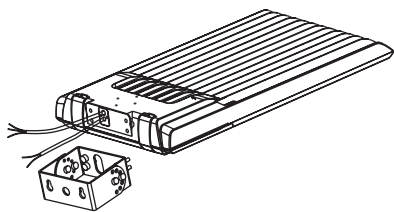

Figure 22
1. Pass the input wire through the center of the trunnion mount and secure the bracket to the fixture housing with the (4) M8 × 20mm bolts (included). (Figures 22 & 23)